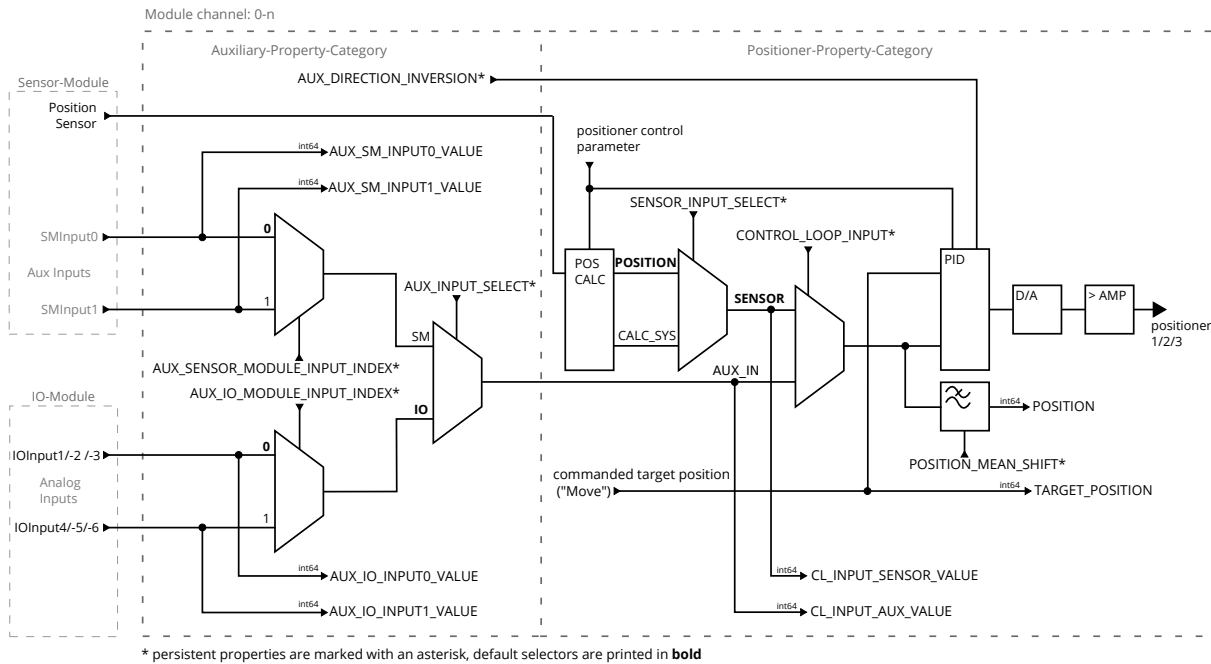

Figure 2.10: Auxiliary Input Configuration (per channel)
- The auxiliary input signal is defined as absolute value, thus it is not possible to define a logical scale offset, e.g. by setting the position with the Position property. Doing so affects the position calculation of an integrated sensor of a positioner (if there is one). Several properties give access to the position of an integrated sensor as well as the auxiliary input values regardless of the actual signal currently used as feedback signal. Refer to figure 2.10 for the different signal paths and properties in this context.